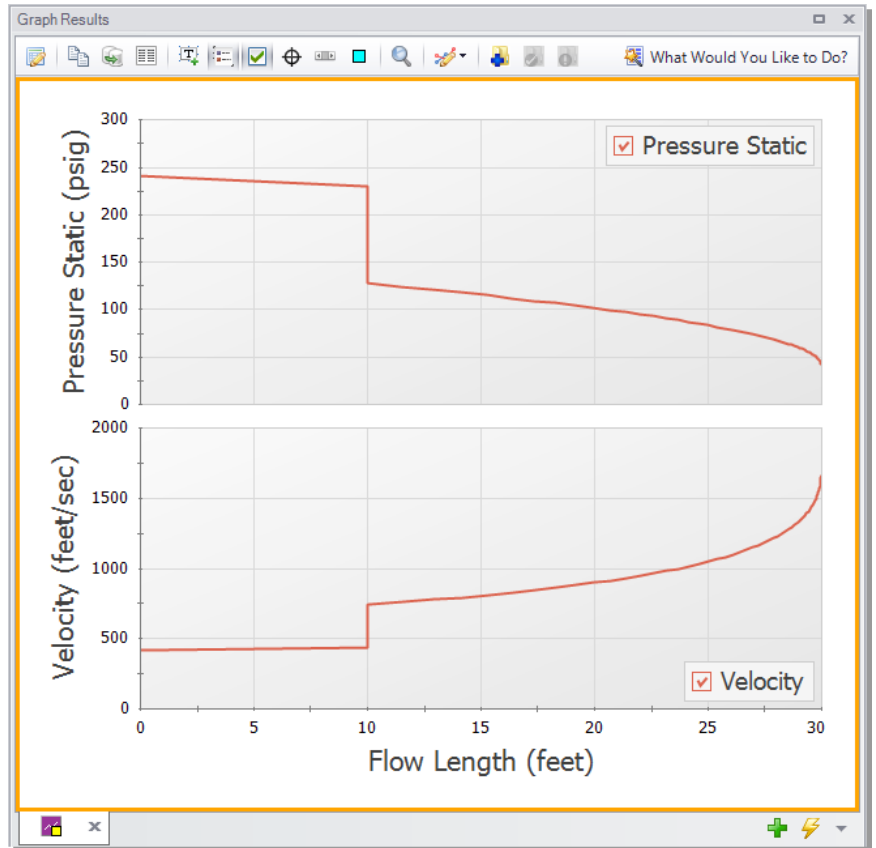

Figure 2.23 The Graph Results window showing a graph of the static pressure and velocity along the entire length of the pipeline
- **Click the Generate button** to create the stacked pressure and velocity graphs, shown in Figure 2.23. Note that the total static pressure loss across the orifice is approximately 102 psid.